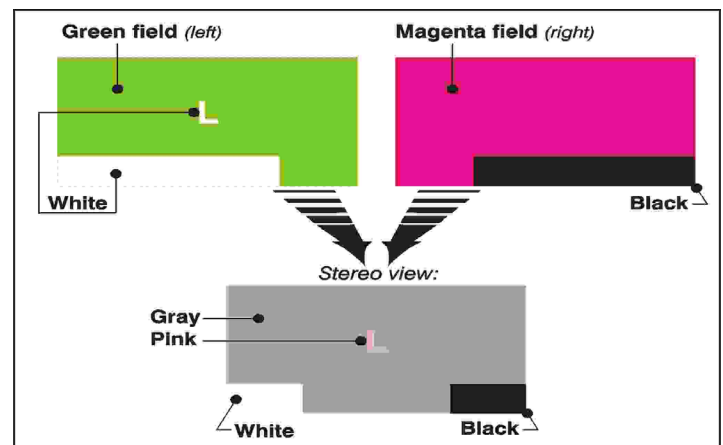

Figure 3-58 Internal Test Pattern for 3D
- Proper 3D configuration defined in the TPC's **Custom 3D Control** menu. For best results, use the 3D internal test pattern shown in **Figure 3-58**.